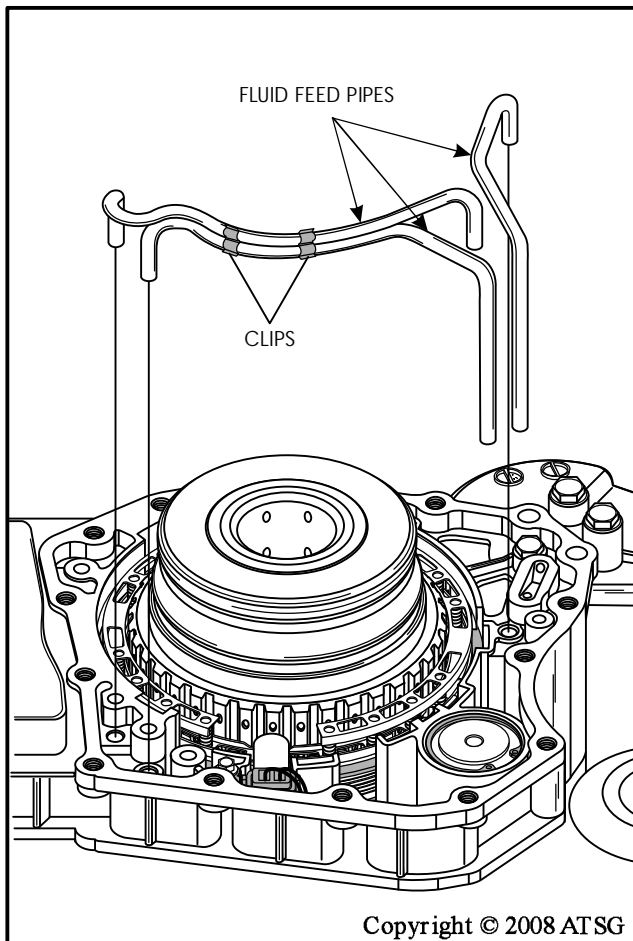

Figure 206
38. Install the fluid feed pipes into transaxle case, as shown in Figure 206, and seat them gently with a soft mallet.